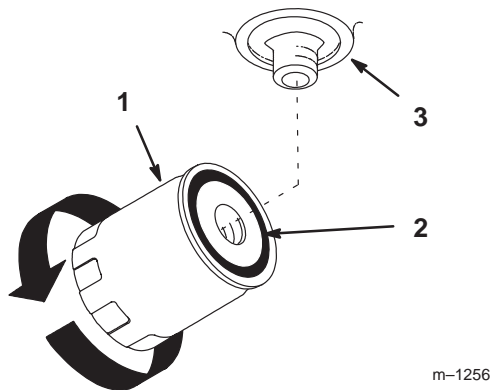

Figure 47
- Apply a thin coat of hydro fluid to the rubber gasket on the replacement filter (Fig. 47).
- When fluid overflows the filter, turn the oil filter clockwise until the rubber gasket contacts the filter adapter; then tighten the filter an additional 1/2 turn (Fig. 47).